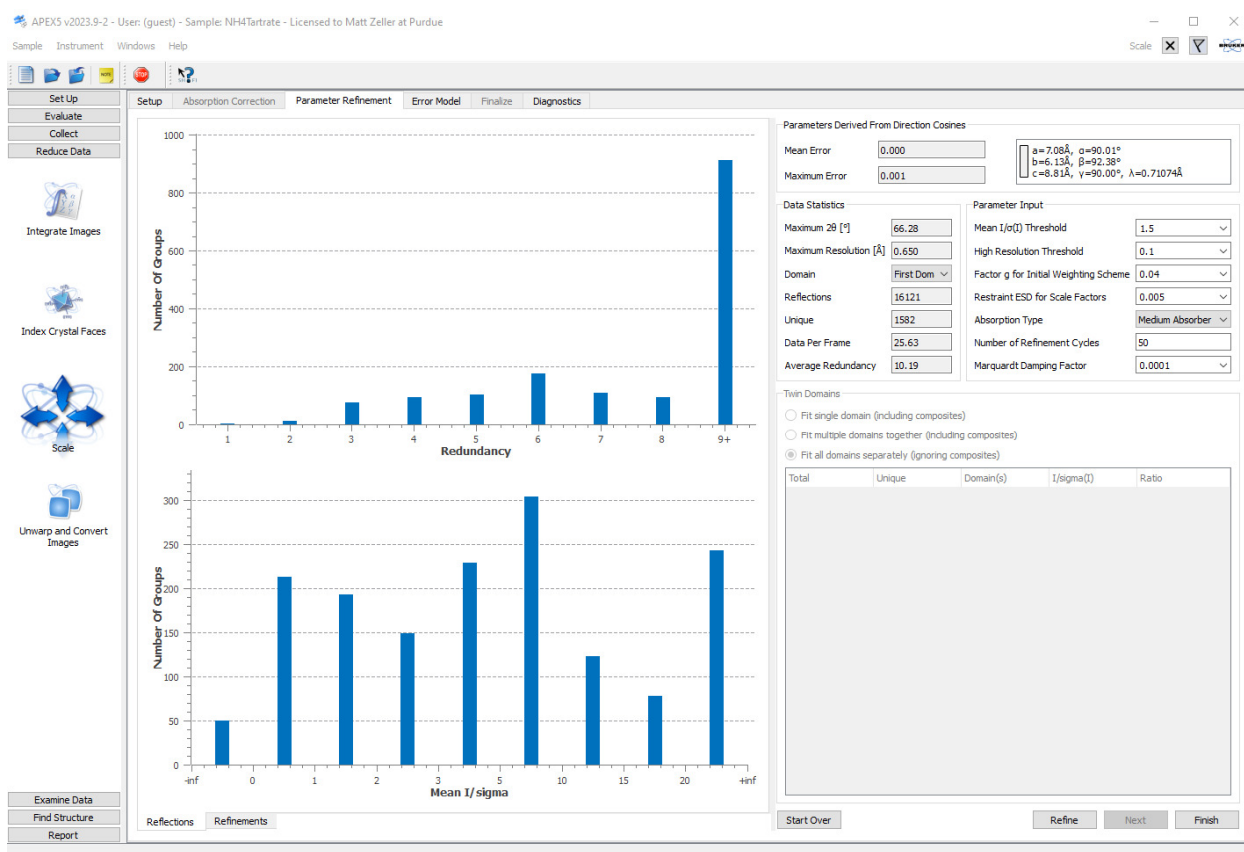

Figure 25, Absorption Correction window (second Scale Window) before refinement
- The refinement window will open (Fig. 25). An average redundancy of around 3.0 is usually sufficient for weak to medium absorbing samples. For oddly shaped and heavily absorbing samples a higher redundancy is required.